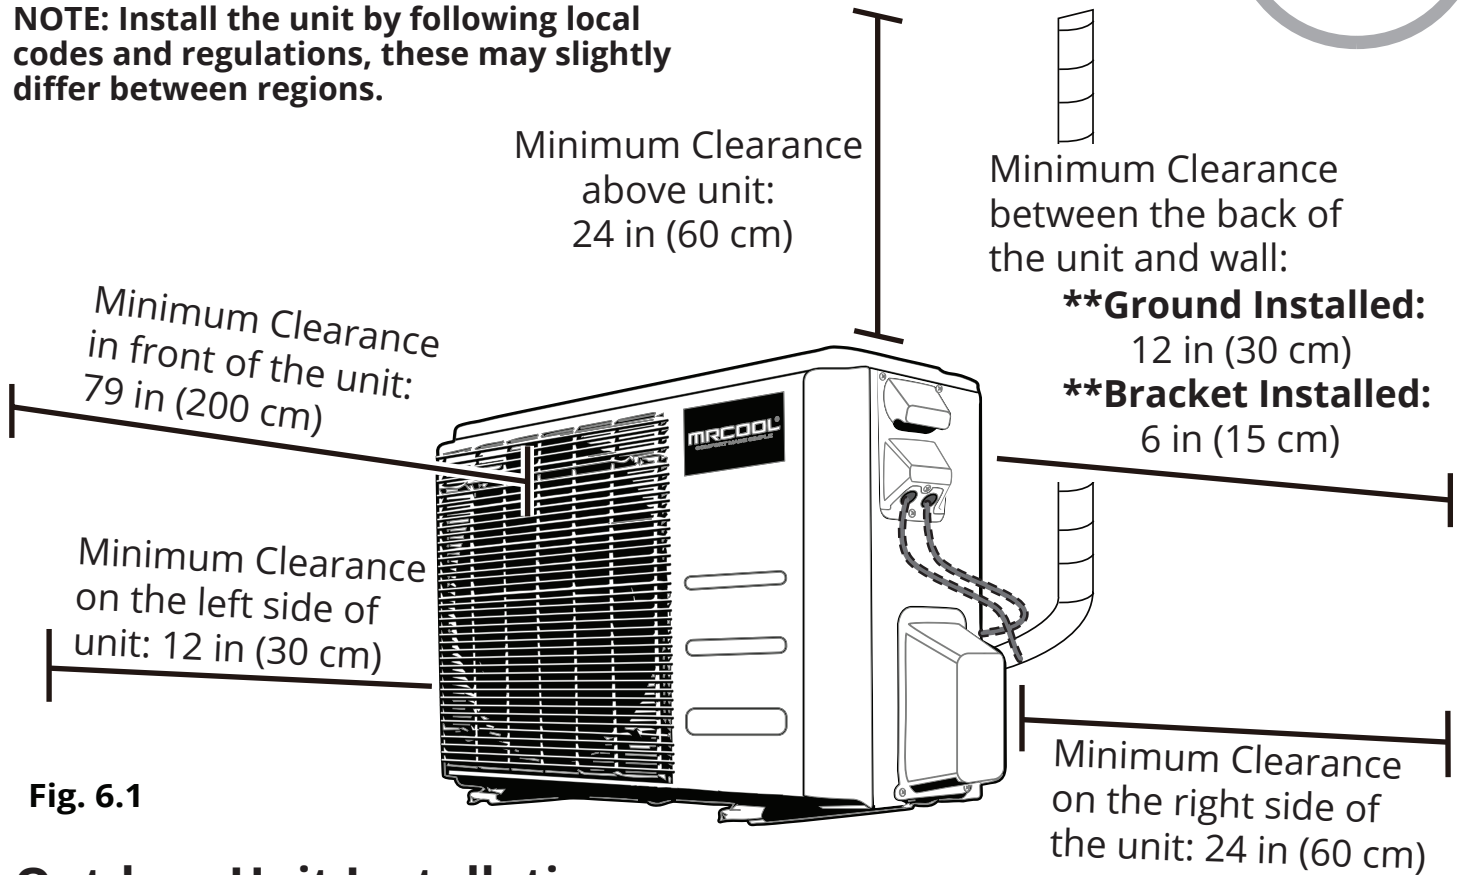

Fig. 6.1
- Meets all spatial requirements shown in in the illustration above (Fig. 6.1)